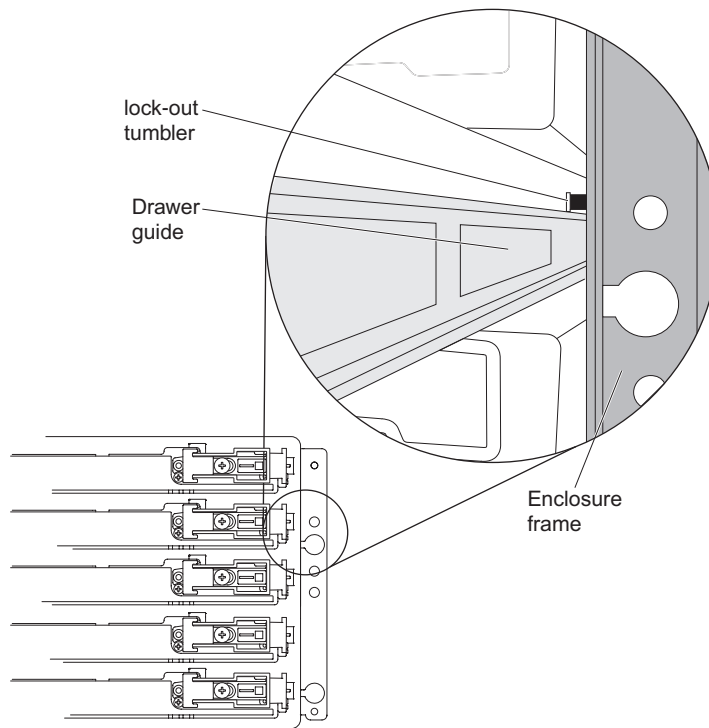

Figure 91. Lock-out tumbler located above the drawer guide
- a. At the front of the storage expansion enclosure, install the new drive drawer into the slot, making sure the lock-out tumbler is located on the top of the drawer guide. The lock-out tumbler is a small alignment piece that is attached to the frame. Figure 91 on page 140 shows the location of the lock-out tumbler as shown from the front of the enclosure.